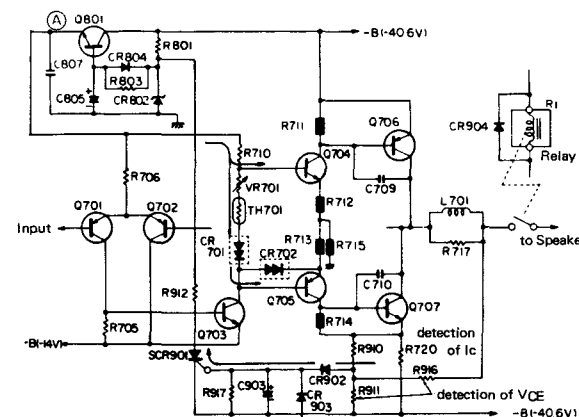

Fig. 4
(3) ASO (Area of Safety Operation) detection circuit (Output transistor protection) (Fig. 4)